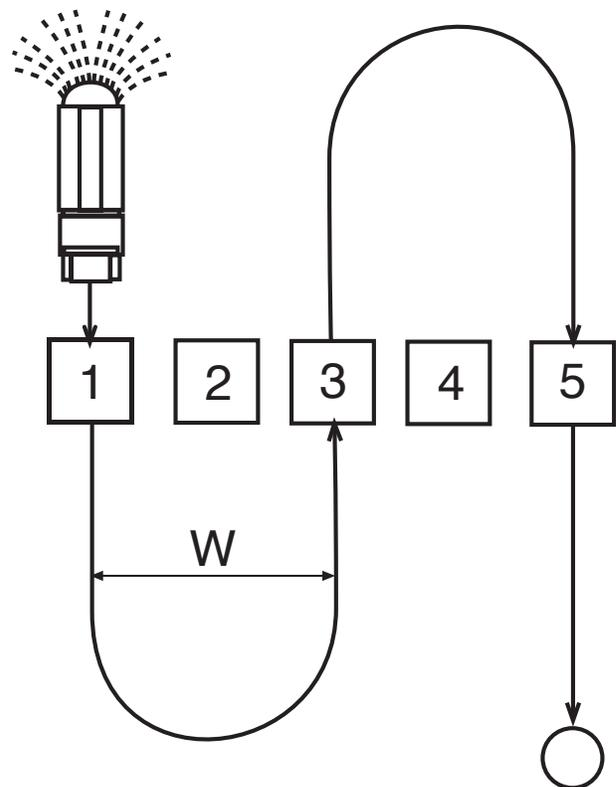

Figure 1. Location of tarps for determining uniformity of manure distribution. Note: W is the width between passes when spreading.
5. Locate a large and reasonably smooth, flat area where the manure can be applied. The area must be firm, since the vehicle tires will be traveling directly over the tarp. Soft ground will cause the tarp area to be severely distorted. Spread the tarps on the ground in a line (see Figure 1) and secure them at each corner using a wire flag or stone. The distance between the centerline of tarp 1 and tarp 3 (see Figure 1) should be the distance that you usually place between passes when spreading manure. Similarly, the distance between the centerline of tarp 3 and tarp 5 should be your typical pass width. Place tarp 2 so that it is centered between tarps 1 and 3 and place tarp 4 so that it is centered between tarps 3 and 5 (Figure 1). Place a flag on the centerlines of tarps 1, 3, and 5.